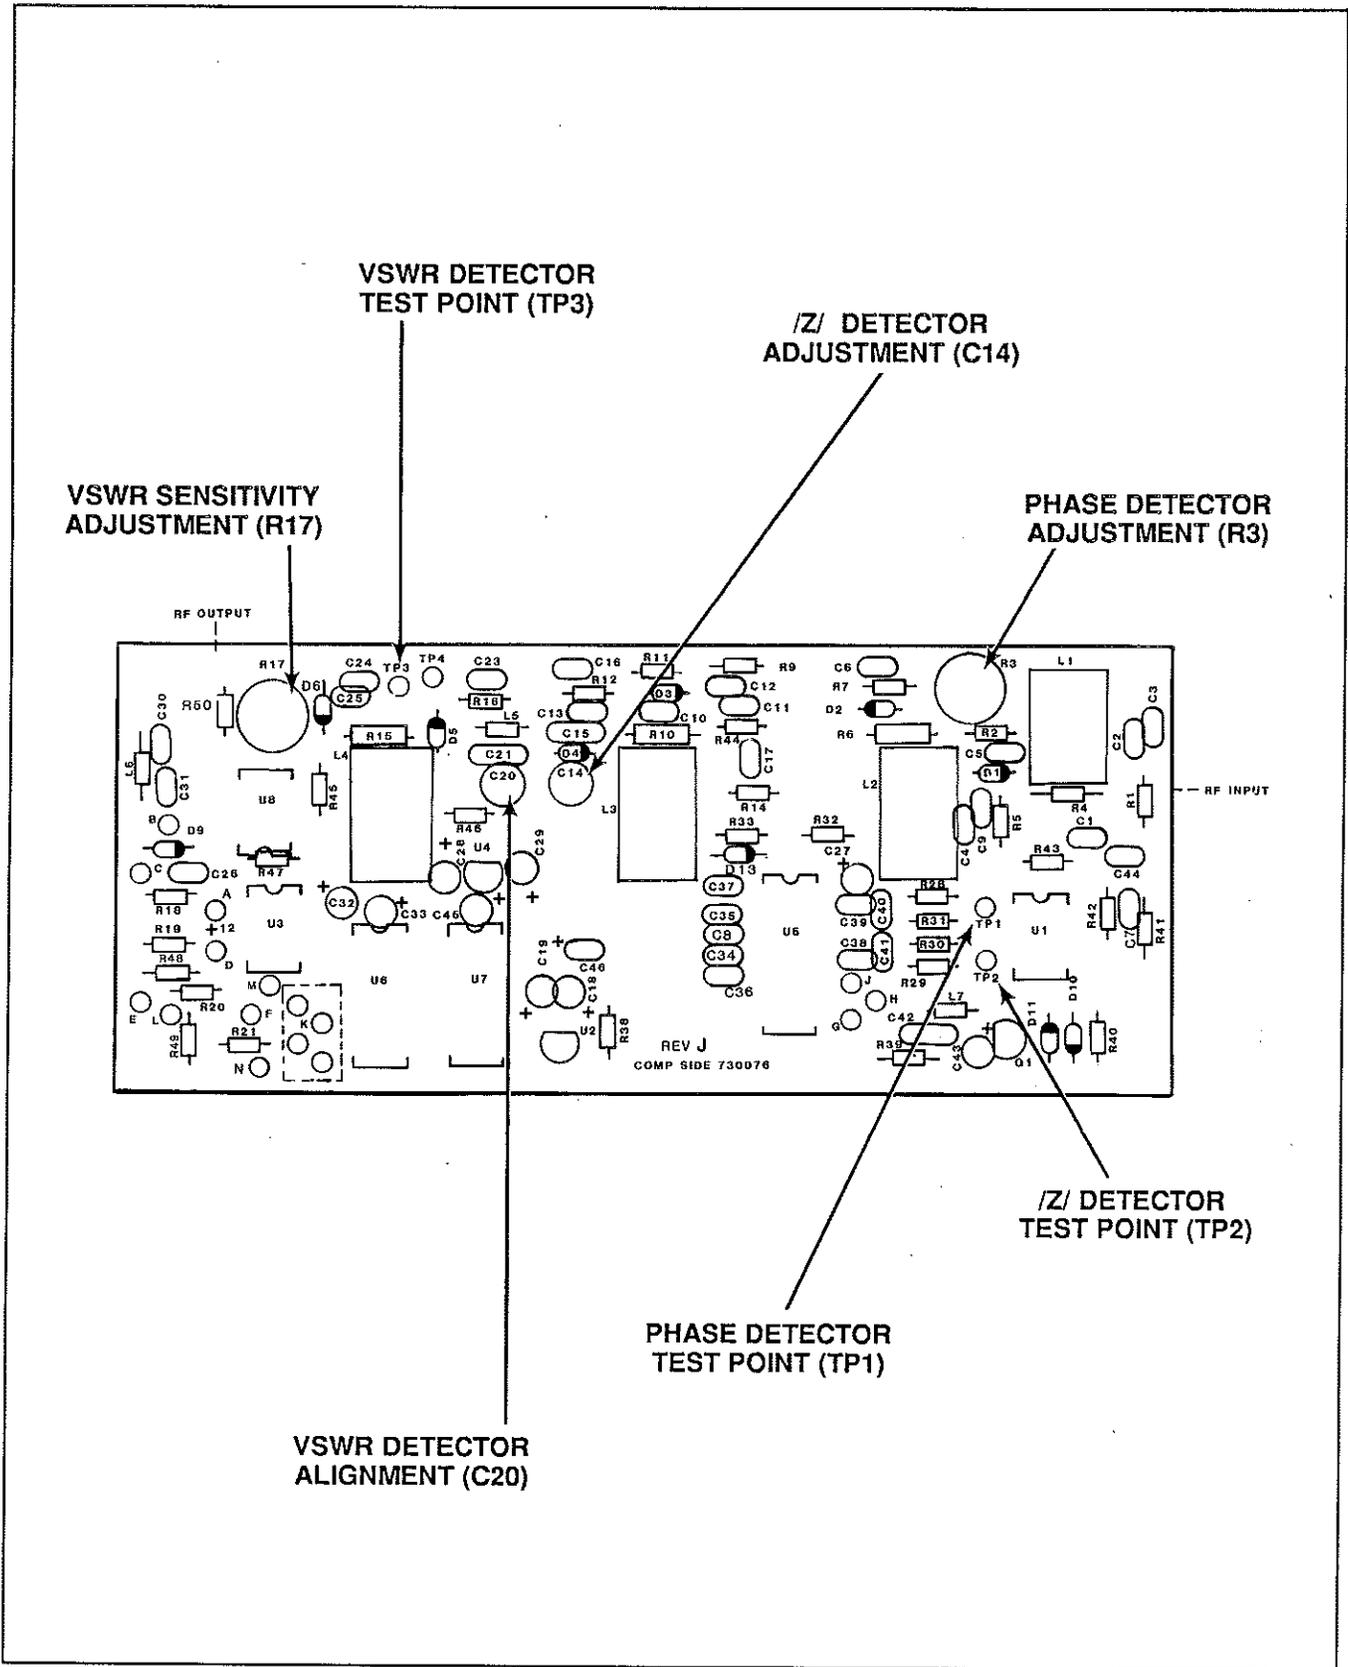

FIGURE 6-1.
5. Adjust R17 for maximum VSWR sensitivity (fully CCW—see Figure 6-1).
6. Connect the voltmeter to test point 3 on the detector PCB (Figure 6-1). Adjust the voltmeter to read -dc volts at the lowest voltage scale.
8. Connect the voltmeter to test point 2 on the detector PCB (Figure 6-1). Adjust the voltmeter to read +dc volts on a range equal to 10 V.
10. Connect the voltmeter to test point 1 on the detector PCB (Figure 6-1).